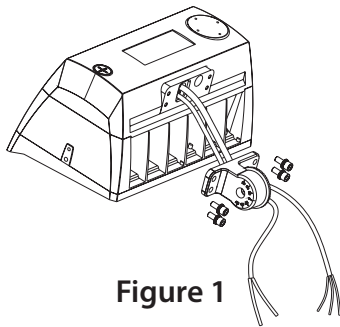

Figure 1
1. ADJUSTABLE FITTER MOUNTING (AM)
Step 1: Remove the bracket mounting screws on the fixture and run the wires through the bracket. (Figure 1)